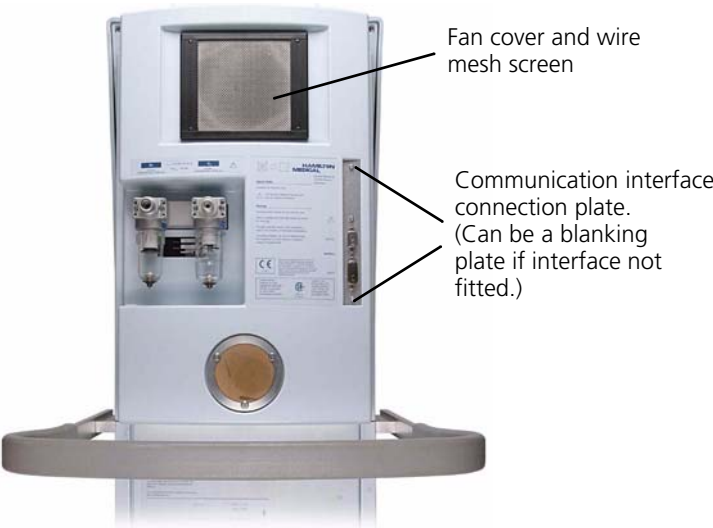

Figure 8-6. The fan and communication interface covers
5. Check the metal plate covering the cut-away in the rear enclosure that is used for the communications interface connector. It must be in place, and well fixed. (Figure 8-6.)
6. Check the fan cover, including the wire mesh screen. (Figure 8-6.)